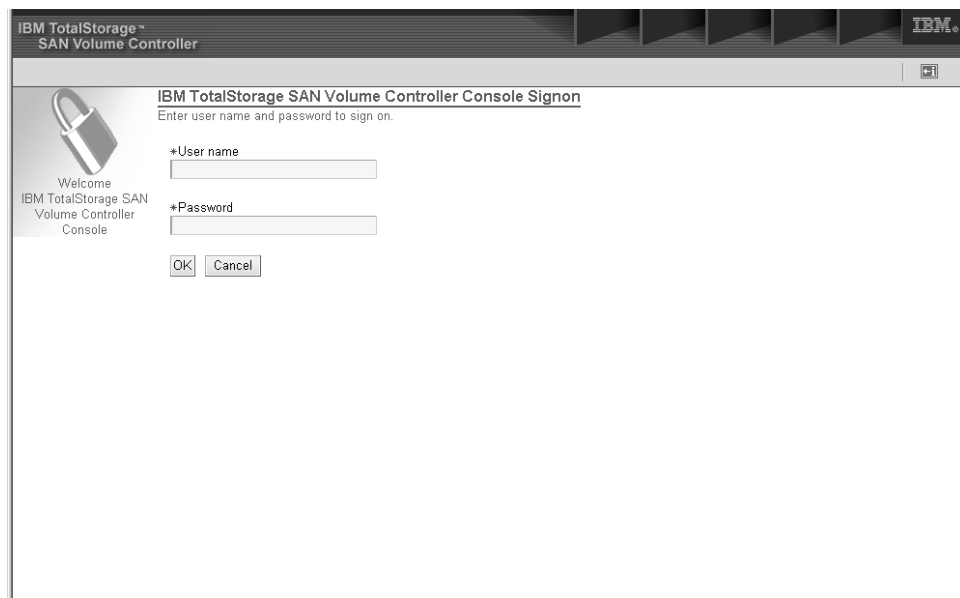

Figure 19. SAN Volume Controller Console sign on panel
1. Log on to the master console using the user name and password provided by the customer. Then, double-click the SAN Volume Controller Console icon and the following SAN Volume Controller Console Sign on panel is displayed. See Figure 19.